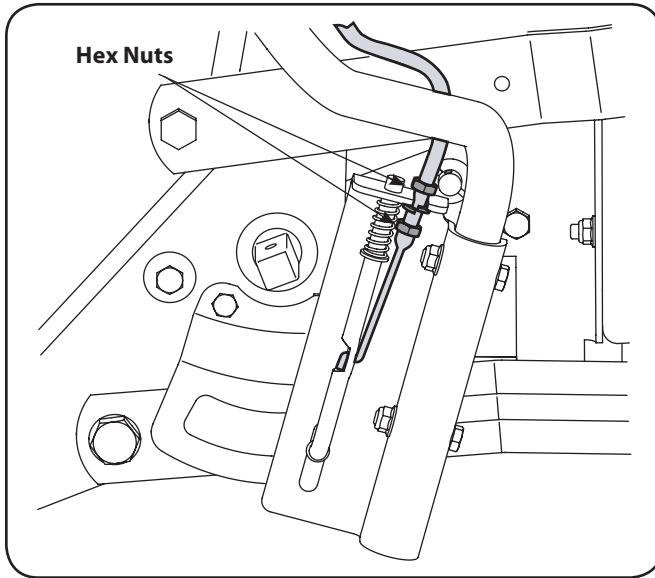

Figure 3-24
1. Loosen the upper hex nut a few turns, then tighten the lower hex nut to shorten the cable length. See Figure 3-24.
2. Loosen the lower hex nut a few turns, then tighten the upper hex nut to lengthen the cable. See Figure 3-24.